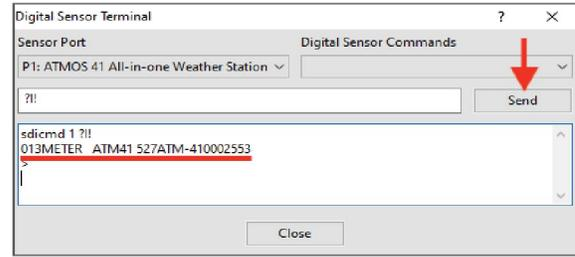

Figure 22. ?! command response
- Click the Send button to return sensor information (Figure 22).
When SDI-12 address is 0, the returned output should be similar to **013METER ATM41 XXXATM-41000XXXX** (Figure 22).